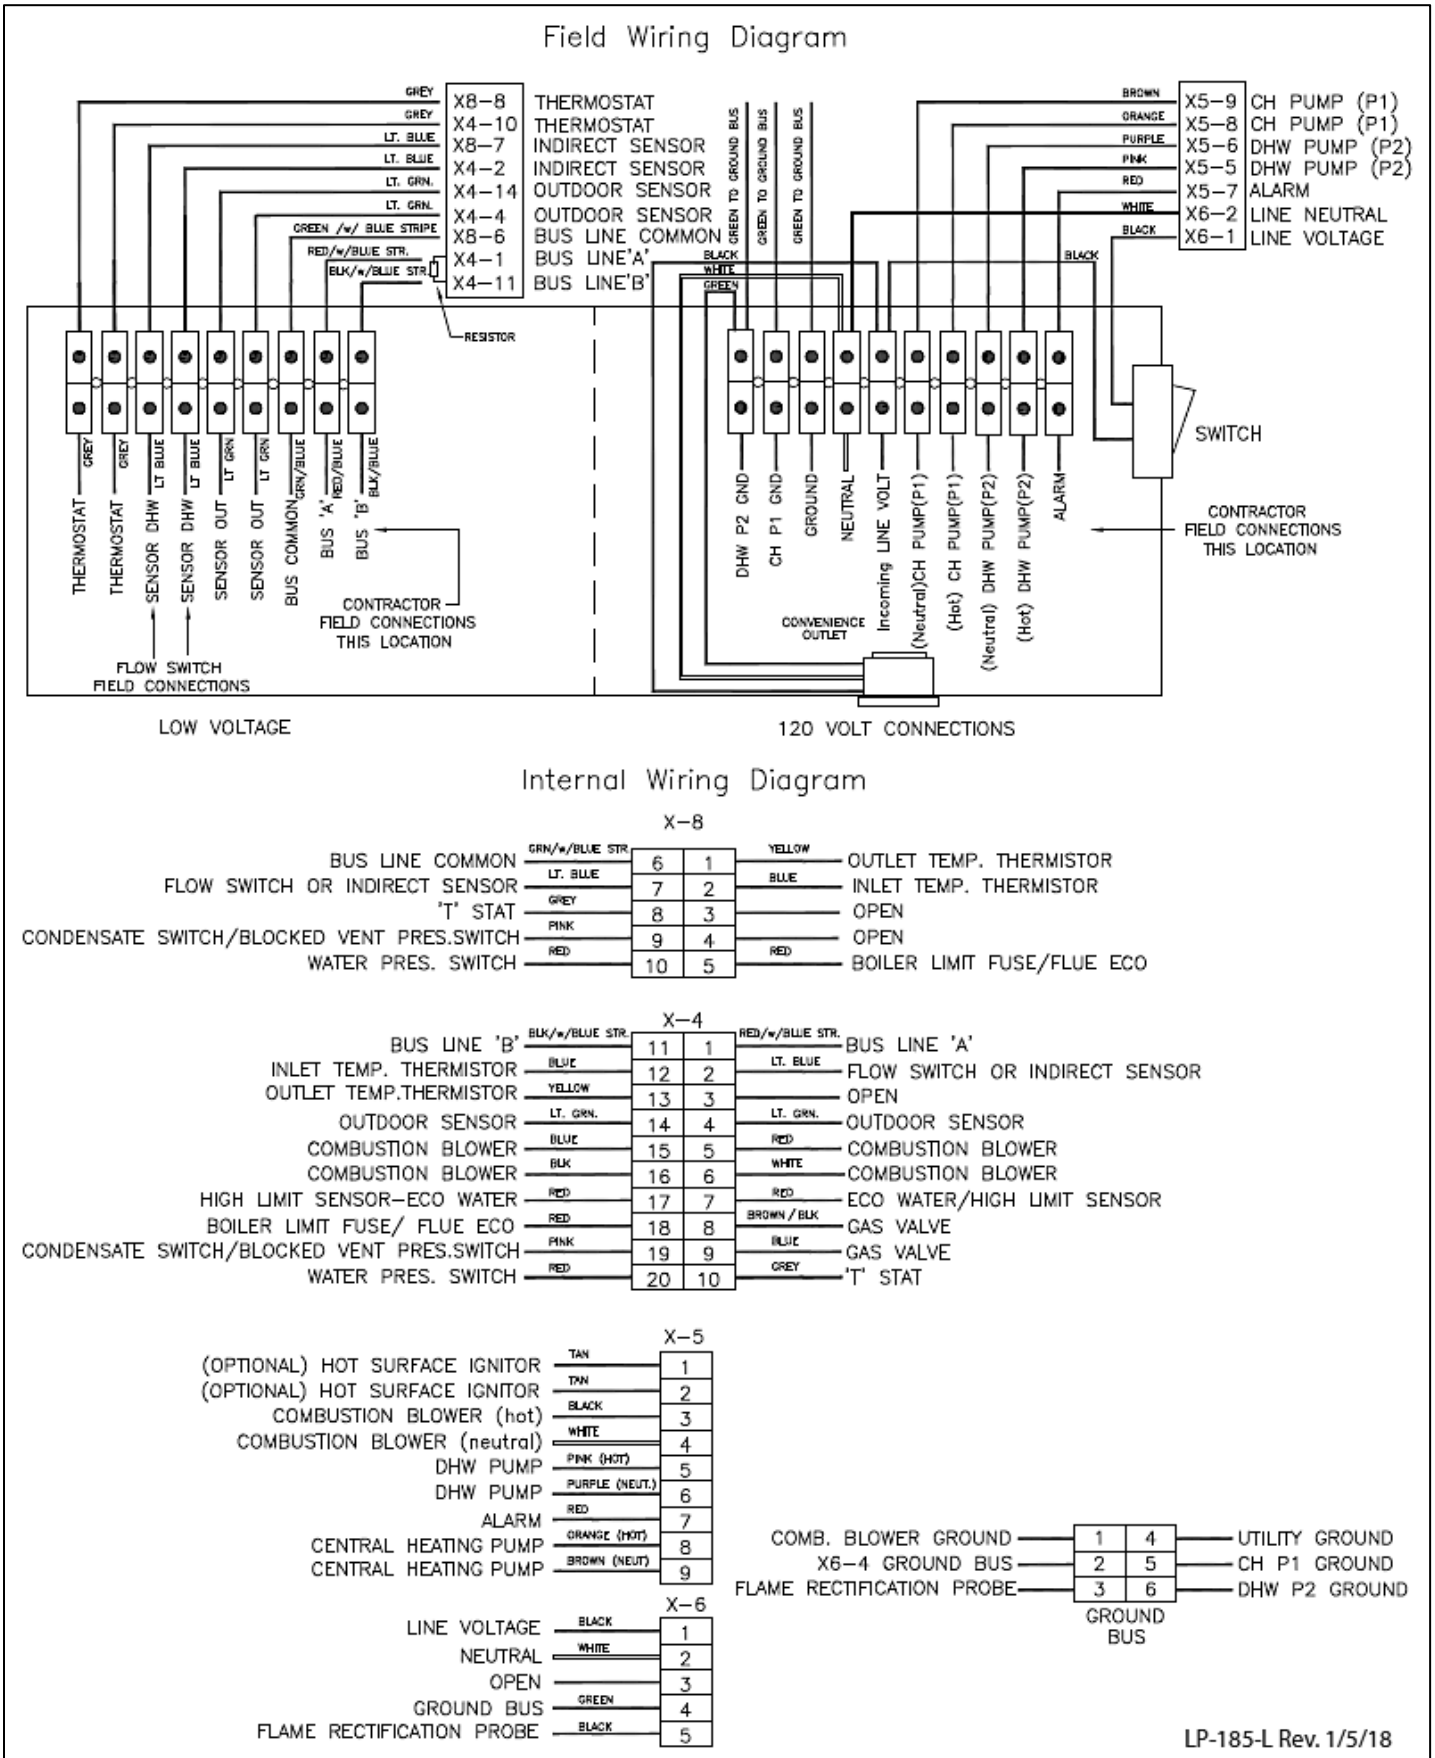

Figure 30- NOTE: A resistor is provided between Bus Lines A and B. DO NOT REMOVE THIS RESISTOR! DOING SO WILL EFFECT HEATER OPERATION AND VOID WARRANTY!
1. Connect 120 VAC power wiring to the line voltage terminal strip located inside the electric junction box, as shown in Figure 30.